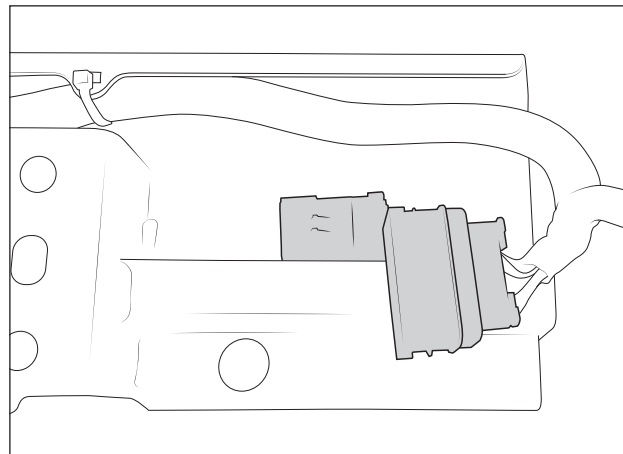

Figure 14
4. Mount the two main factory connectors to the Center Sections mounting locations (fig. 14).